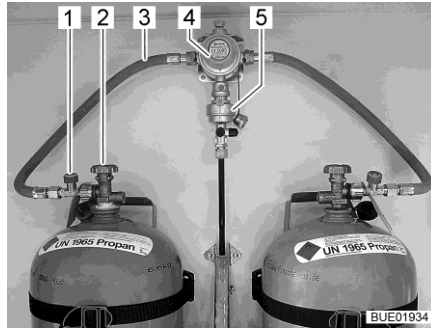
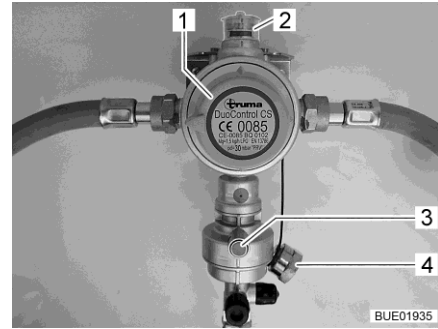

Fig. 59 Gas bottles with DuoControl
Fig. 60 DuoControl regulating system
The DuoControl regulating system consists of a reversing valve (Fig. 59,4) and a crash sensor (Fig. 59,5). The DuoControl regulating system is installed between the gas tubes (Fig. 59,3) with hose break guard (Fig. 59,1). The knob (Fig. 60,1) on the reversing valve is used to select which of the gas bottles is to be used as primary bottle and which is to be used as reserve bottle.
The status of the gas supply is indicated in the inspection window (Fig. 60,2):
The operation with only one gas bottle is allowed but in this case the open connection must be closed with a blind cover (Fig. 60,4).
The crash sensor blocks the gas supply in the event of a significant impact (e.g. accident). The crash sensor is put into operation with the green reset button (Fig. 60,3).
The hose break guard (Fig. 59,1) blocks the gas flow if the connected hose breaks. The hose break guard must be activated by pressing the green button. The green button must be pressed until the pressure in the hose has built up.
At the operating unit (Fig. 61), the gas supply via the DuoControl regulating system is switched on and off. The regulator taps (Fig. 59,2) of the gas bottles and the gas isolator taps of the devices must be opened manually. To activate the hose break guard, see section "Hose break guard".
- Use the knob (Fig. 60,1) on the reversing valve to select the gas bottle which is to be the primary source of gas (primary bottle). Always turn the knob as far as it will go.
- Open regulator taps (Fig. 59,2) on the gas bottles.
- Press the green button of the hose break guard (Fig. 59,1). The green marking is shown in the inspection window (Fig. 60,2).
- Close regulator taps (Fig. 59,2) on the gas bottles.
If the green indicator lamp (Fig. 61,6) goes out during operation and the red indicator lamp (Fig. 61,5) lights up, the primary bottle is empty and must be changed. The red marking is shown in the inspection window (Fig. 60,2). The reserve bottle continues supplying the gas appliances with gas.
- Turn the knob (Fig. 60,1) a half turn in the direction of the currently used gas bottle. In this way, this gas bottle is the primary bottle now, and the empty gas bottle becomes the reserve bottle. The marking in the inspection window (Fig. 60,2) changes from red to green.
- Close regulator tap (Fig. 59,2) on the empty gas bottle. Pay attention to the direction of the arrow.
- Press the green button of the hose break guard (Fig. 59,1).